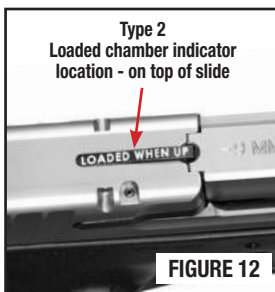

FIGURE 12
- Type 2: Some Smith & Wesson® pistols are equipped with a tactile loaded chamber indicator. This indicator is present on the top of the slide. When the chamber is empty, the loaded chamber indicator will be flush with the top of the slide. When the chamber is loaded, the front of the loaded chamber indicator will protrude from the top of the slide where it can be felt above the slide's surface (FIGURES 12 and 13).